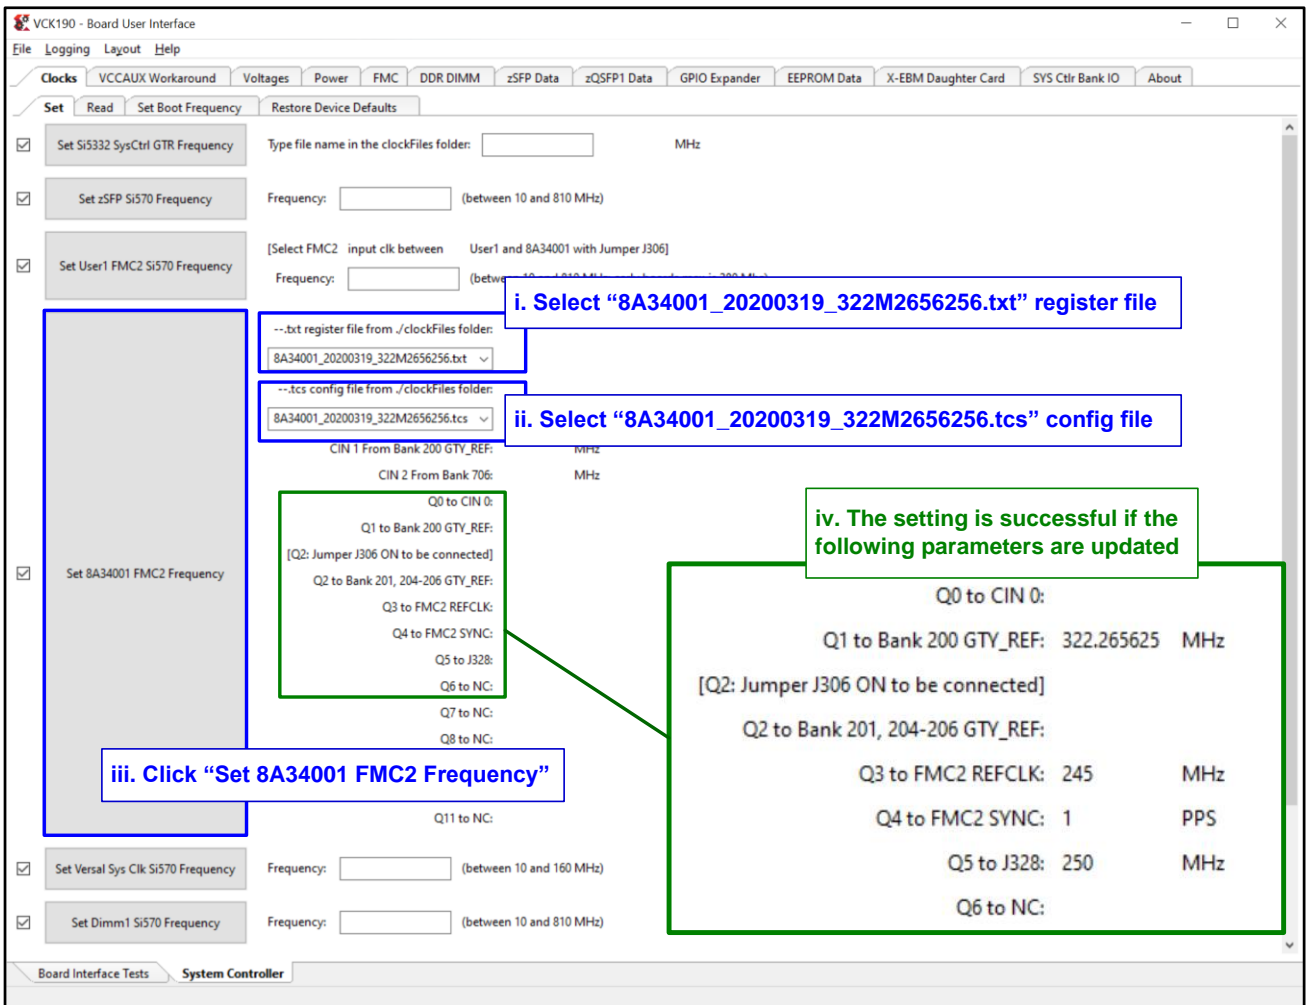

Figure 9 Reference Clock Programming for VCK190
- 8) Configure the programmable clock for the FPGA board. If the board already uses the desired clock frequency, no further configuration is required. For the VCK190, use “VCK190 – Board User Interface” application to set the programmable clock to 322.265625 MHz, as shown in Figure 9.